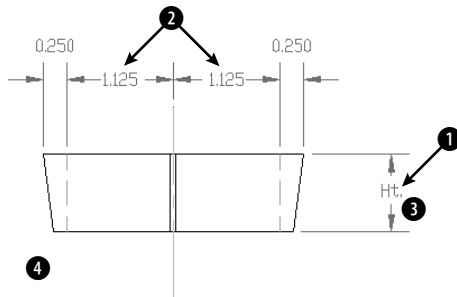

Figure 14-37: A dimensioned cross-section of a valve part.
2. Save the file as `ab14-09.dwg` in your AutoCAD Bible folder. This is a cross-section of a valve part, as shown in Figure 14-37. Open the Dimension toolbar if it isn't displayed.
3. To replace the dimension marked `Ht.`, choose `Modify` ⇨ `Object` ⇨ `Text` ⇨ `Edit`. At the `Select an annotation object or [Undo]:` prompt, choose the dimension at 1 in Figure 14-37. The In-Place Text Editor opens with the text displayed. Select the current text and type `<>`. Click `OK`. The command automatically creates the original measured dimension. Press `Enter` to end the command.
4. If you are using AutoCAD LT, skip to Step 5. Select the two dimensions marked 2 in Figure 14-37. Also select the cyan centerline and the two green hidden lines. Choose `Quick Dimension` from the Dimension toolbar. At the first prompt, right-click and choose `Edit`. At the `Indicate dimension point to remove, or [Add/eXit] <eXit>:` prompt, choose the two edit points (each marked with an X) on the cyan centerline. Right-click and choose `Exit`. At the `Specify dimension line position, or [Continuous/Staggered/Baseline/Ordinate/Radius/Diameter/ datumPoint/ Edit/SeTtings] <Continuous>:` prompt, place the dimension line where it was previously. (You can use the outside arrows as a guide.)